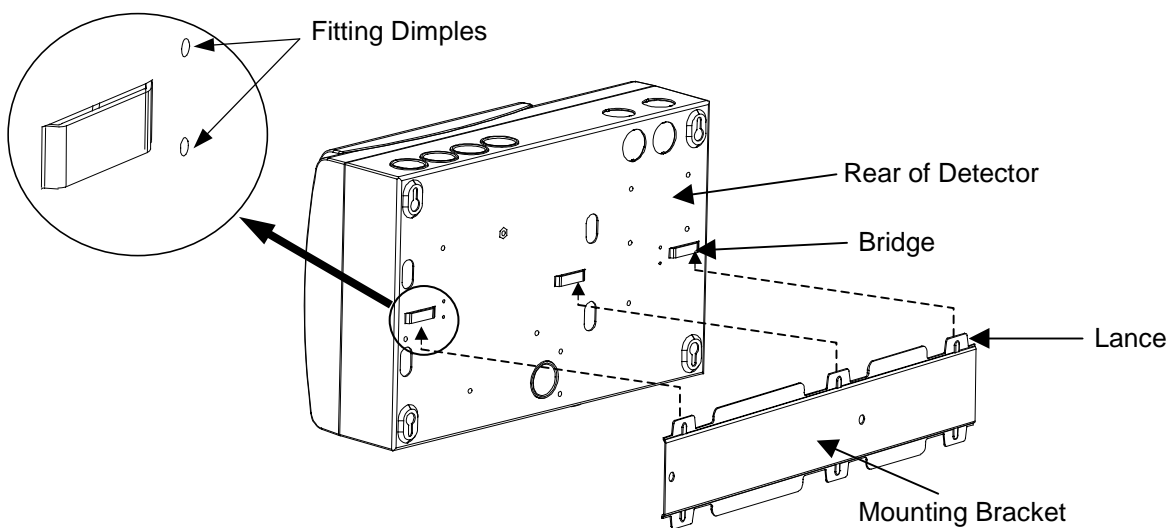

Figure 8 Mounting the Detector onto the Mounting Bracket
- (b) Place the three bridges located on the rear of the detector onto the three lances located on the mounting bracket. Refer to Figure 8.